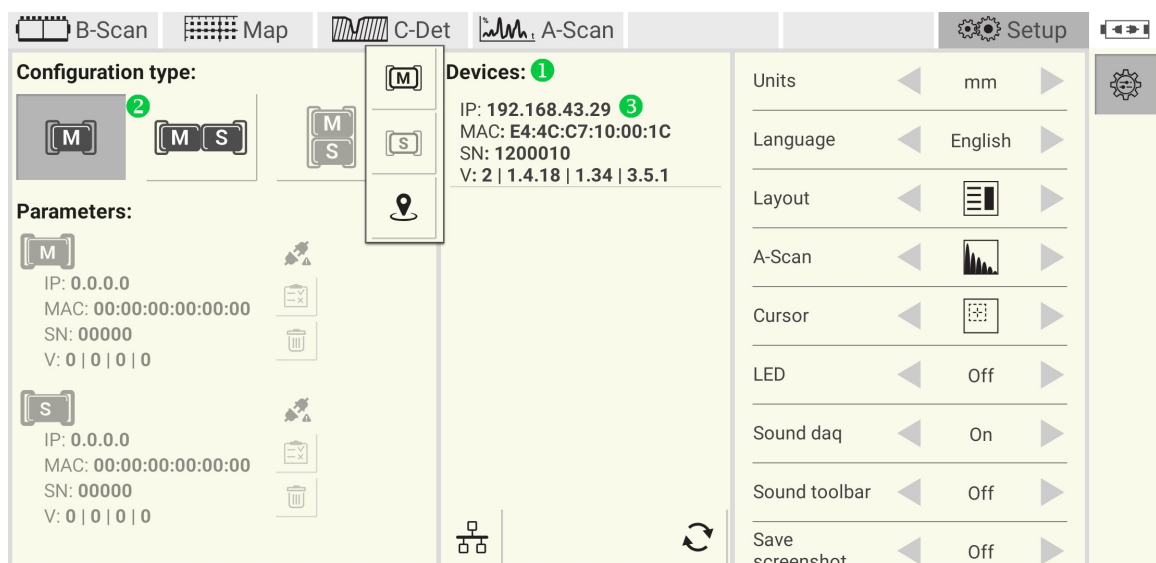

Figure 20: A1040 MIRA 3D configuration
After the scan finishes, the `device list` ① shows all available devices. Select `<% INSTRUMENT%>-configuration` ② and tap on a device item ③ to assign it as a master , Figure 20.